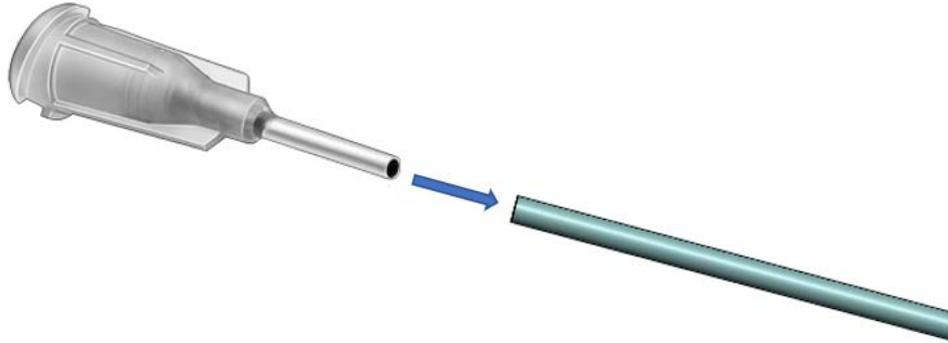

Figure 5. Insert dispensing needle into silicone tubing end
2. Attach a dispensing needle with luer-lock connection to the other end of the input tubing (see Figure 5). This ensures the end will sink to the bottom of the input solution container. If this end does not go all the way to the bottom, air can be aspirated and enter the system as the solution